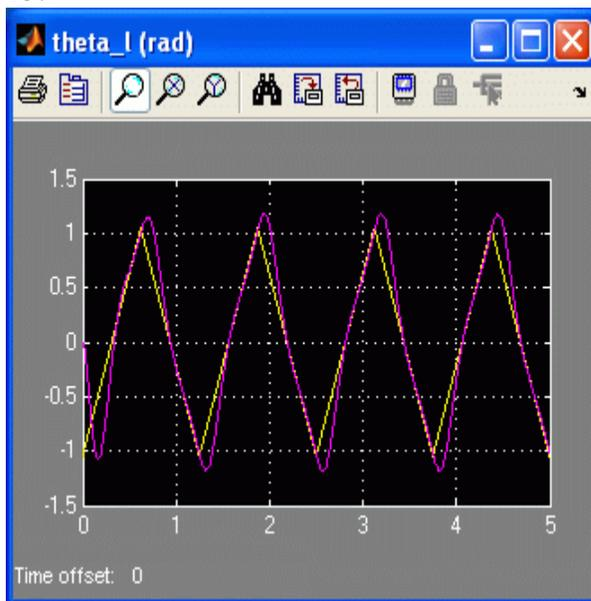

Figure 12: PIV ramp response.
11. Start the simulation. The *Ramp PIV* response in the scopes should be similar to figures 12 and 13.